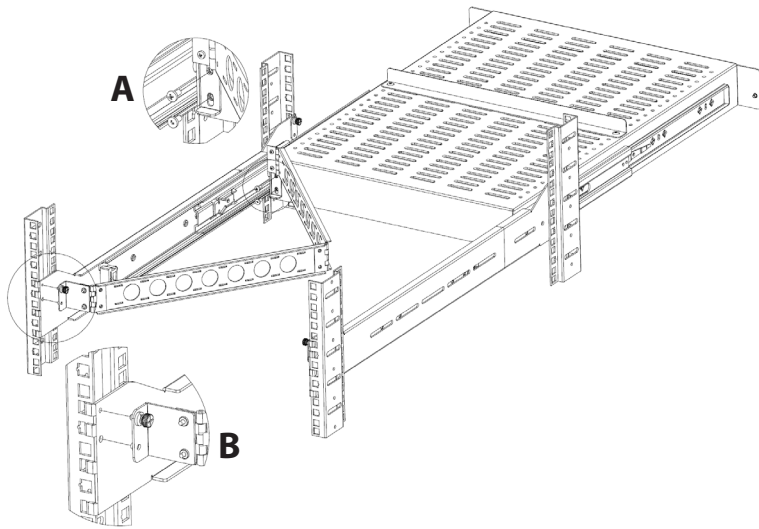

Figure 5
- Align the **Cable Management Arm Mounting Holes** (See Figure 5 A) with the **Mounting Holes** located on the **Rear** of the **Sliding Shelf**.
- Align the **Rear** of the **Cable Management Arm** with the **Mounting Holes** located on the **Rear** of the **Sliding Rail Assembly** (See Figure 5 B). Insert the pin of the **Locking Bracket** into the corresponding hole and tighten via **Thumbscrew**.